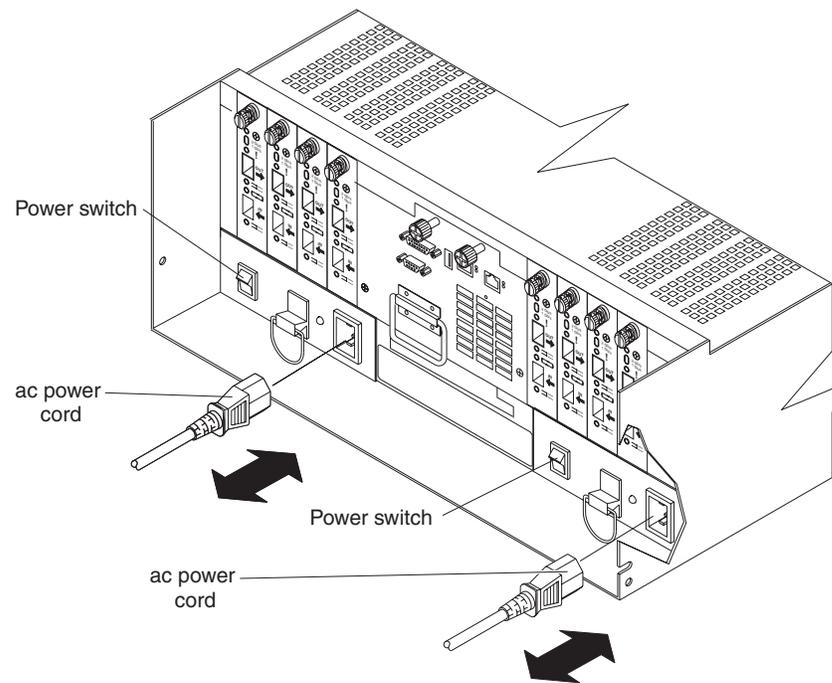

Figure 55. Connecting the power cords and turning the power on and off
2. Plug both FAST900 Storage Server power cords into the FAST900 Storage Server, as shown in Figure 55.